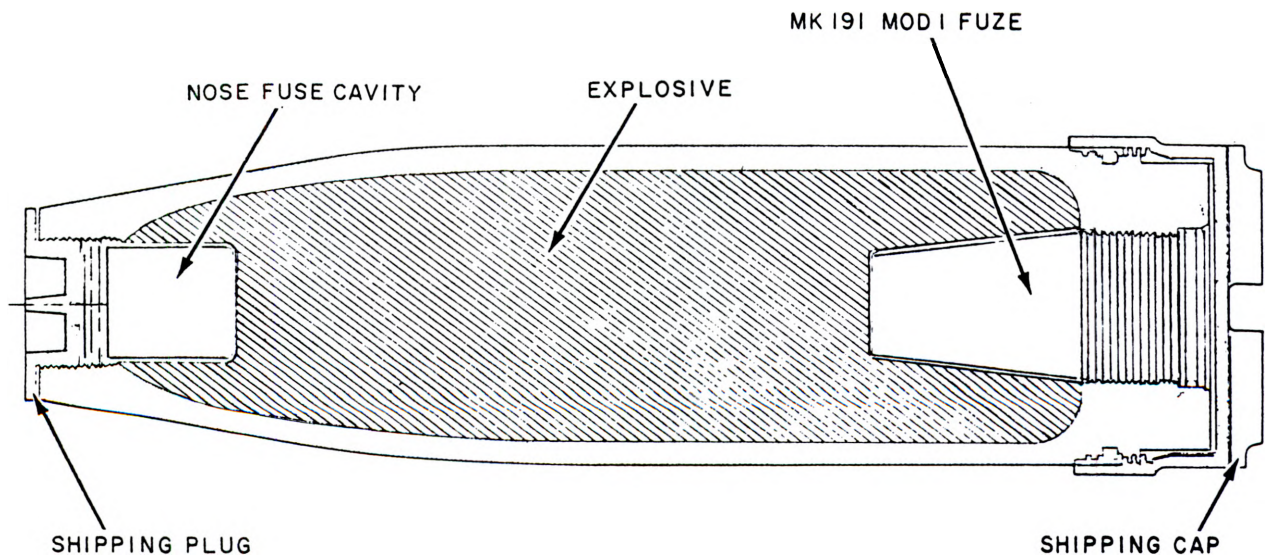

Figure 4-15.—Mk 24 Mod 0 high-explosive general-purpose warhead (GP).
GP WARHEAD.—The high-explosive general-purpose (GP) warhead (fig. 4-15) is a compromise between the armor-piercing and the